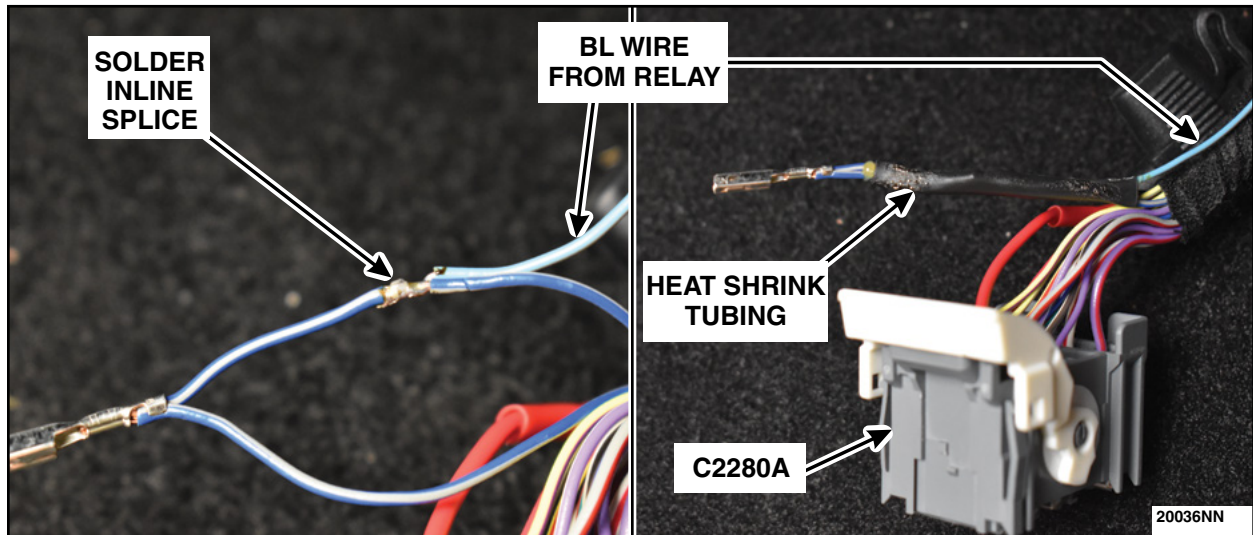

FIGURE 41
59. Solder the BL wire from the relay to the inline splice, apply heat shrink and heat to seal the inline splice. Reinstall the terminal into pin 6. See Figure 41.